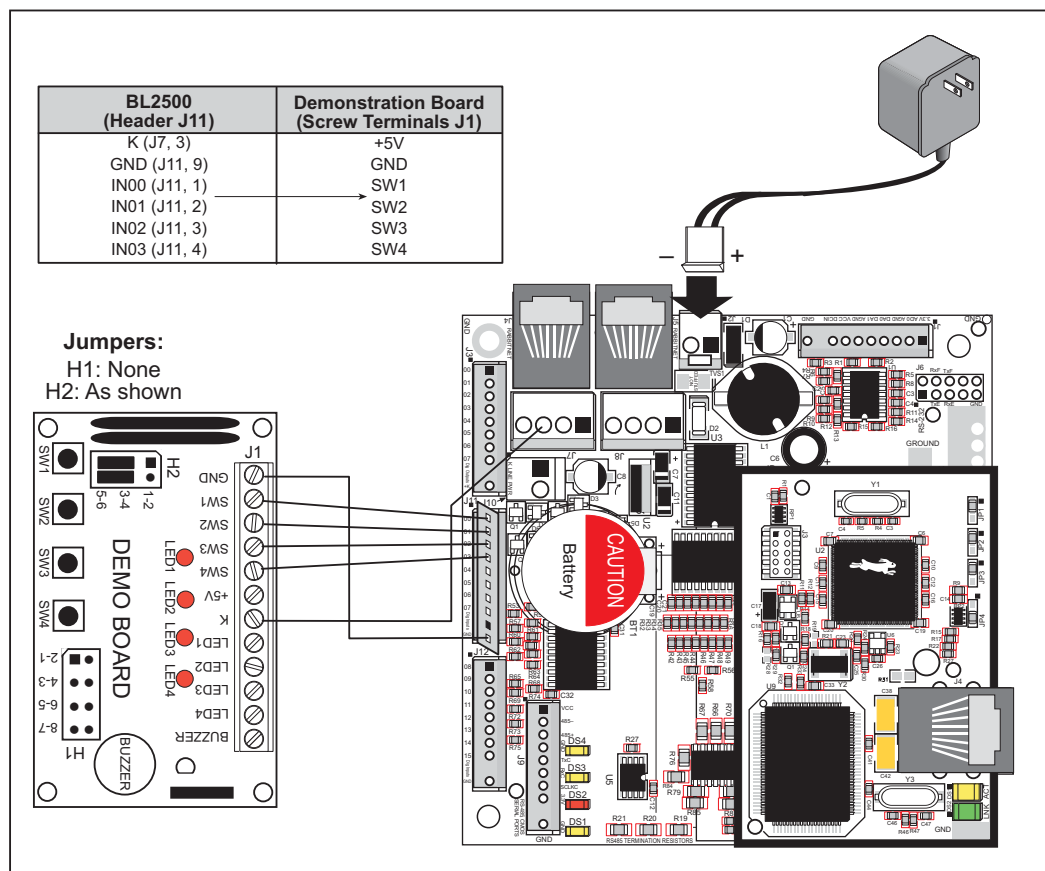

Figure C-3. Connections Between Coyote and Demonstration Board for DIGIN.C Sample Program
1. Use one of the wiring harnesses you have built to connect header J1 on the Demonstration Board to the Coyote. The connections are shown in Figure C-3 for sample program **DIGIN.C**, in Figure C-4 for sample program **DIGOUT.C**, and in Figure C-5 for the **BL2500\TCPIP** TCP/IP sample programs.